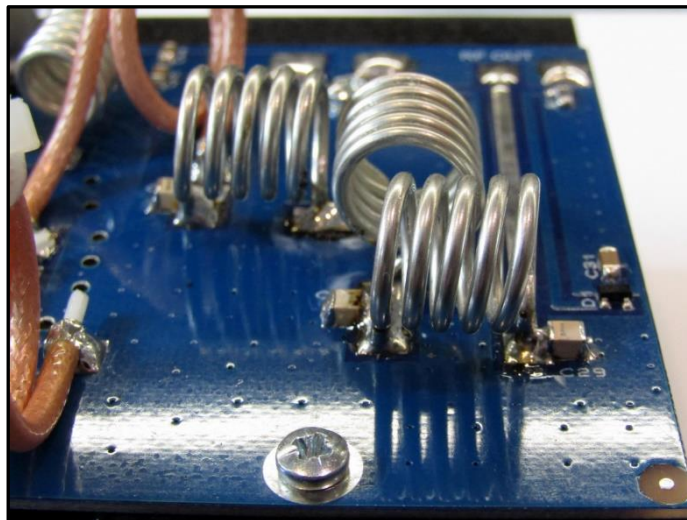

Figure 16: L10 position.
18. Solder the remaining coil (made in step 16) to the pads at C28 & C29, 90 degrees to L9. This is L10, the final coil of the low pass filter. See figure 16.